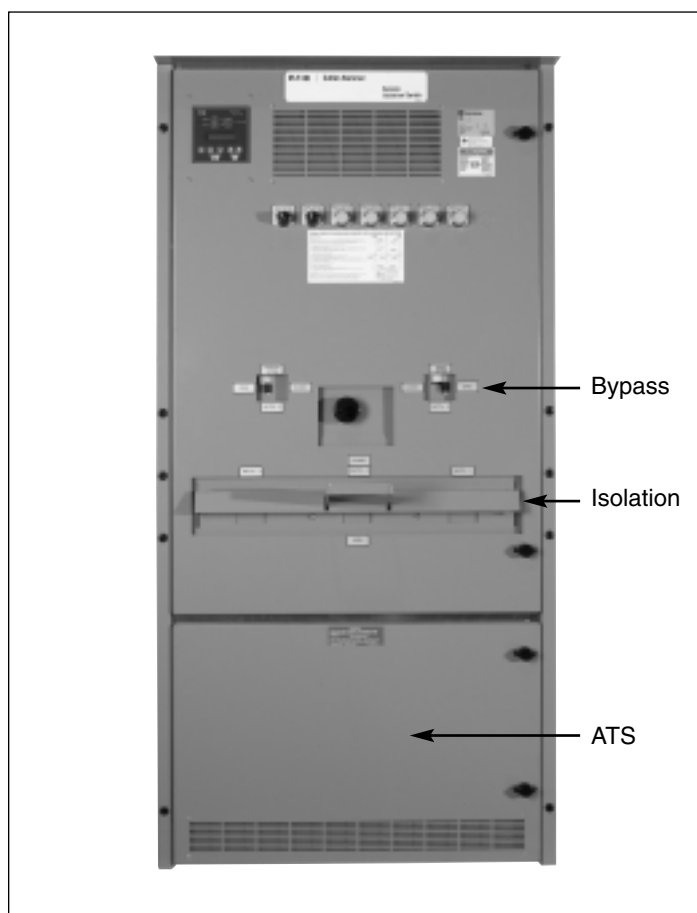

Fig. 1
It consists of three (3) basic elements. (See Fig. 1)